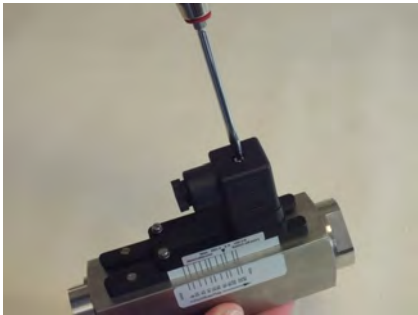

Fig. 61: Loosen female socket
1. Loosen the fixing screw of the female socket (Fig. 61) with a flat-bladed screwdriver.